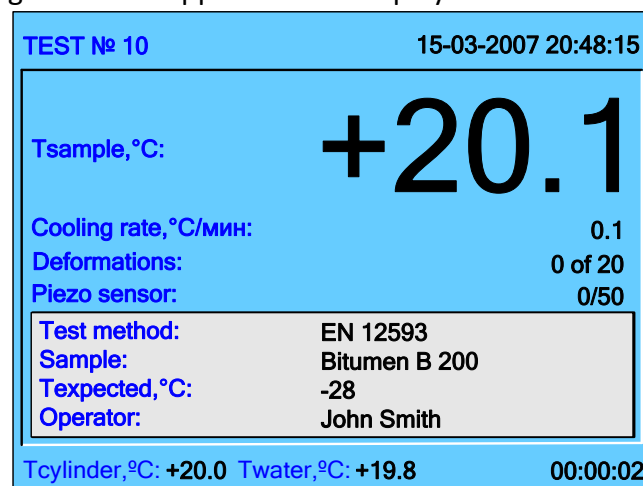

Figure 15 – «Test» mode
4.5.5.2.5 Press **«Start»**. In this case, the deformation device will be positioned to its original position. The information shown in figure 15 will appear on the display.